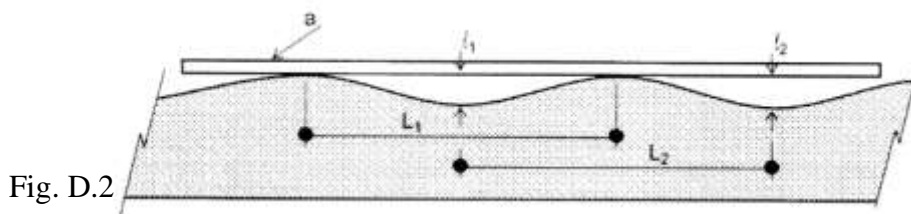

Fig. D.2
This measurement is only relevant in the case of panels with nominally flat or lightly profiled facings. Deviation from flatness (I) shall be defined as the distance between any point in the surface and the theoretical flat plane as shown in Figure D.2. Flatness shall be measured in both the longitudinal and transverse directions over a minimum distance of  $L = 200 \text{ mm}$ . The location of the measured distance L shall be at least 100 mm from the edge of the panel and 200 mm from the end of the panel. A straight metal bar shall be placed on the surface of the panel and the maximum gap between the bar and the panel measured with a precision gauge.